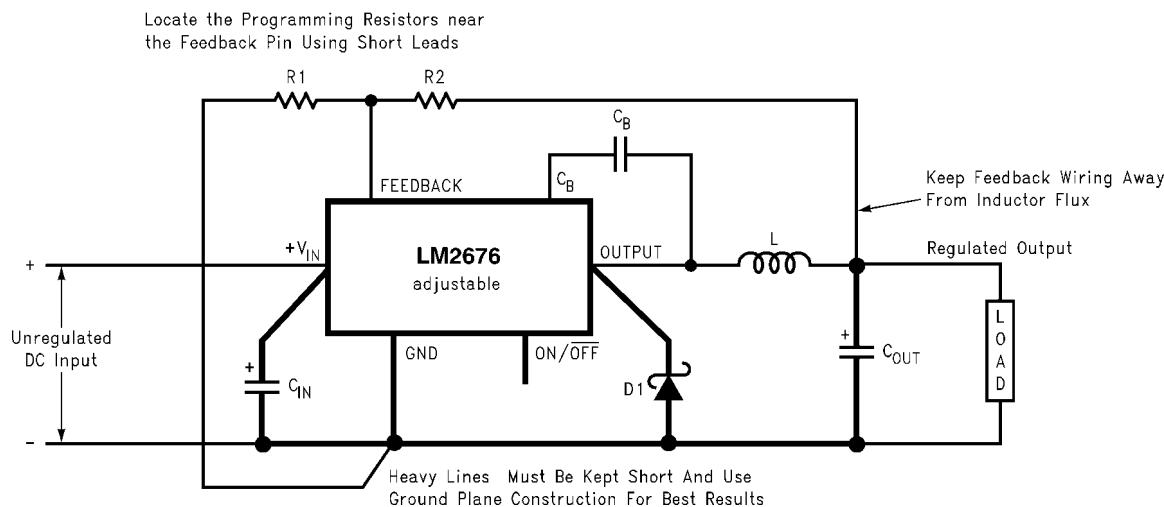

Figure 8-7. Basic Circuit for Adjustable Output Voltage Applications
**Step 2:** Select an LM2676S-ADJ. To set the output voltage to 14.9 V, two resistors must be chosen (R1 and R2 in Figure 8-7). For the adjustable device, the output voltage is set by the following relationship: